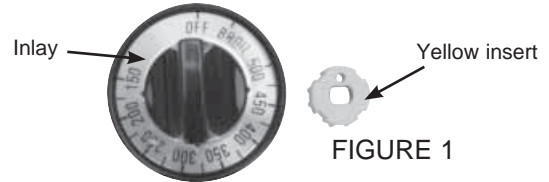

FIGURE 1
5. Included with your kit is an electric thermostat knob replacement kit. The only insert you will need from this kit is the yellow insert. Place the yellow insert onto the control shaft. Install the knob onto the yellow insert and rotate the knob counterclockwise to the OFF position. Remove the adhesive backing from the inlay depicted in Figure 1. Place the inlay over the knob so the OFF aligns with the corresponding mark on the control panel.